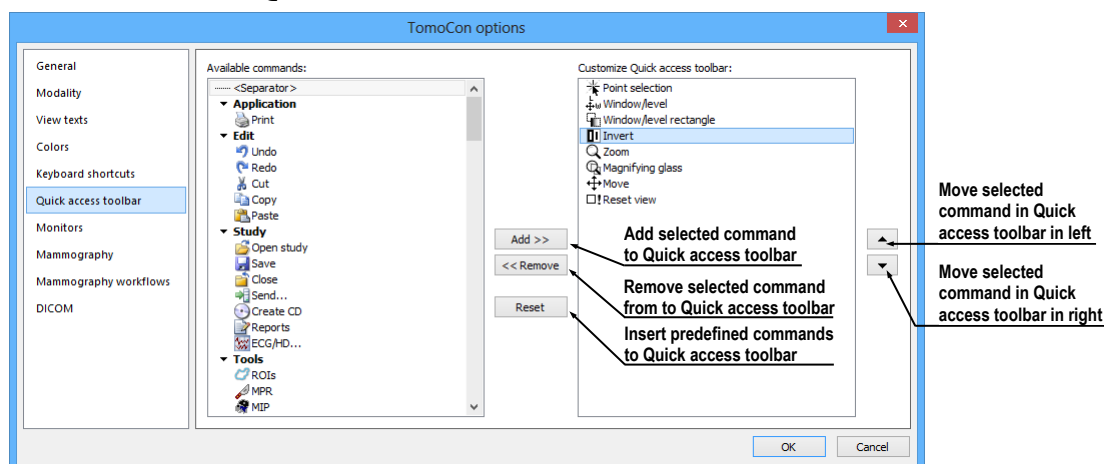

Figure 70 – Configuring the Quick access toolbar
3. Click the **Add >>** button (see Figure 70).